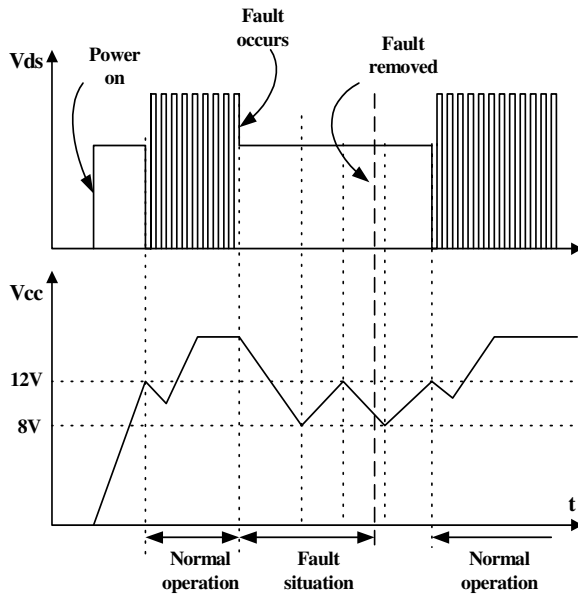

Figure 6. Auto restart operation
**3. Protection Circuit :** The FSDM07652RB has several self protective functions such as over load protection (OLP), over voltage protection (OVP) and thermal shutdown (TSD). Because these protection circuits are fully integrated into the IC without external components, the reliability can be improved without increasing cost. Once the fault condition occurs, switching is terminated and the Sense FET remains off. This causes Vcc to fall. When Vcc reaches the UVLO stop voltage, 8V, the protection is reset and the internal high voltage current source charges the Vcc capacitor via the Vstr pin. When Vcc reaches the UVLO start voltage, 12V, the FSDM07652RB resumes its normal operation. In this manner, the auto-restart can alternately enable and disable the switching of the power Sense FET until the fault condition is eliminated (see Figure 6).